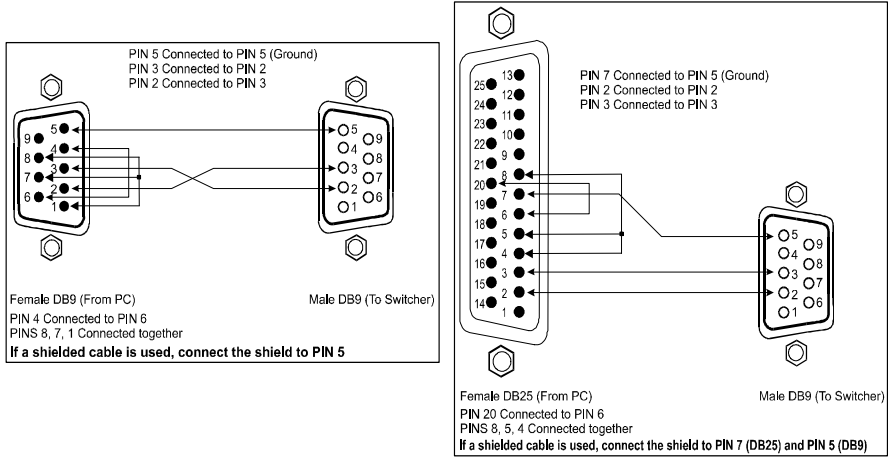

Figure 3: Connecting a PC without using a Null-modem Adapter
- Connect the RS-232 DB9 port on your PC to the RS-232 DB9 rear panel port on the **7508** unit, as Figure 3 illustrates (depending on whether the PC has a 9-pin or 25-pin connector)